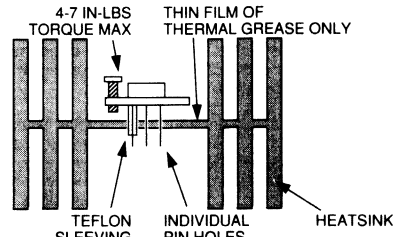

FIGURE 12. MOUNTING CONSIDERATIONS
- 2) Do not over torque the case. Recommended mounting torque for the TO-3 8-Pin package is 4-7 in-lbs (.45-.79 N-m) and for the Power Dip™ packages (PD10 AND PD12) is 8-10 in-lbs (.90-1.13 N-m). Refer to Figure 12. Apply a thin, uniform film of thermal grease between the case and heatsink. Apply small increments of torque alternately between each screw when mounting the amplifier.